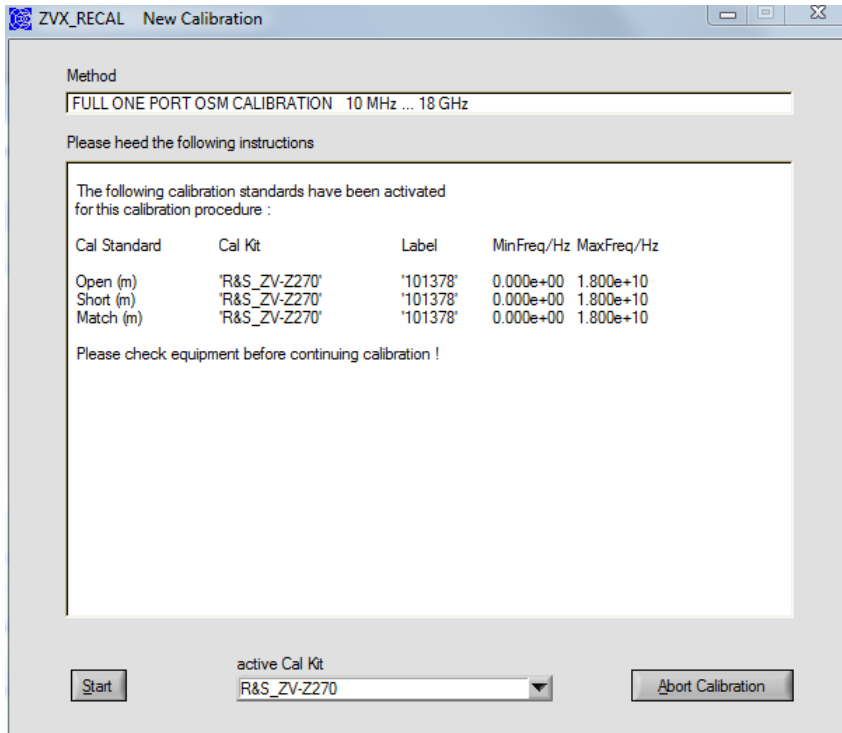

Fig. 6-4 Window for selection of the calibration kit
- In the **Calibration** drop-down list, select the **New: One Port OSM** entry. A window like the one shown Fig. 6-4 will open